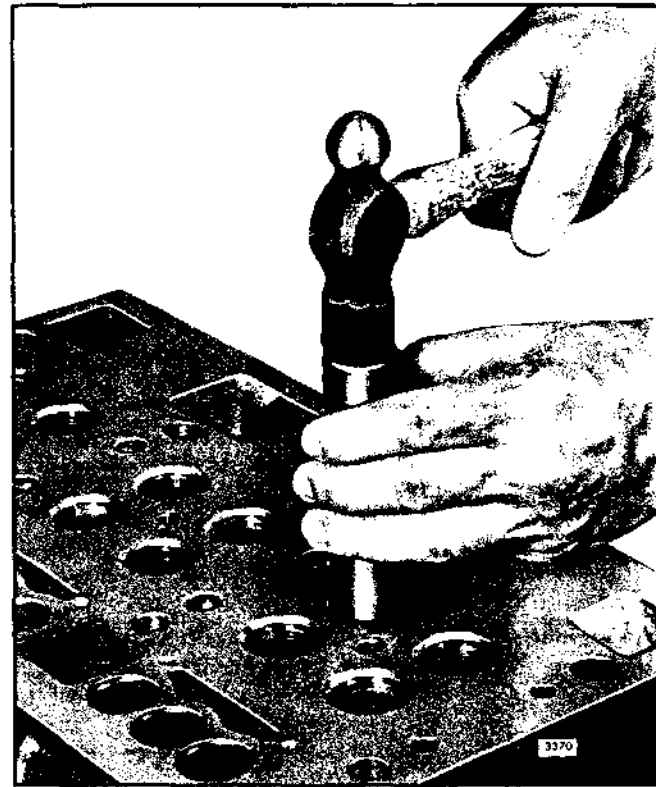

Fig. 8 - Installing Valve Seat Insert
5. Drive the insert in place with installer J 6976 (two valve head) or J 7790 (four valve head) as shown in Fig. 8 until it seats solidly in the cylinder head.